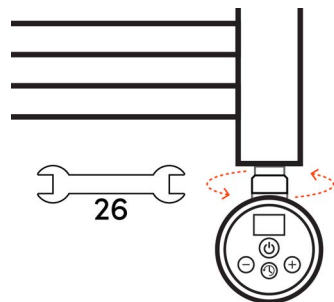

Figure 4 | Tighten element at main nut
5. Tighten the element at the main nut, using a size 26 spanner (**Figure 4**).